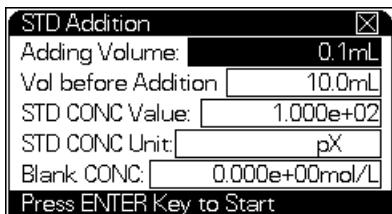

Figure 30 Standard Addition mode
- 3 Press **[Measure]**. The meter enters standard addition mode as shown in Figure 30.